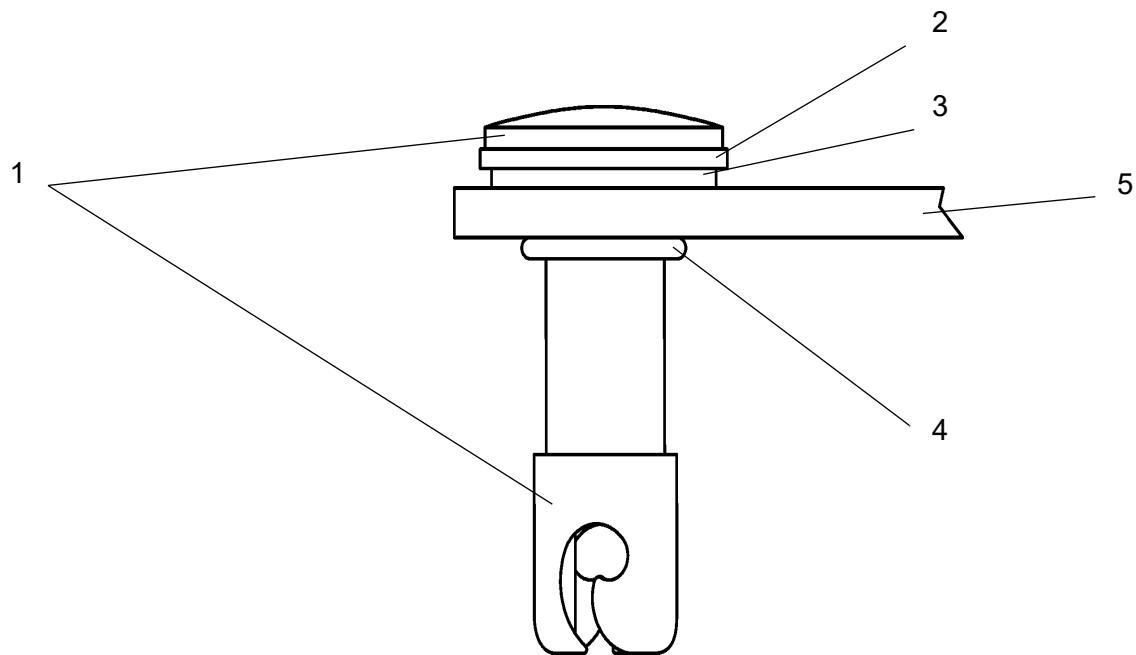

Figure 3-20: Quarter-Turn Fastener
1. Cut open circlip (4) using side-cutter. See Figure 3-20.
2. Remove fastener (1) including plastic circlip (2) and sealing ring (3).